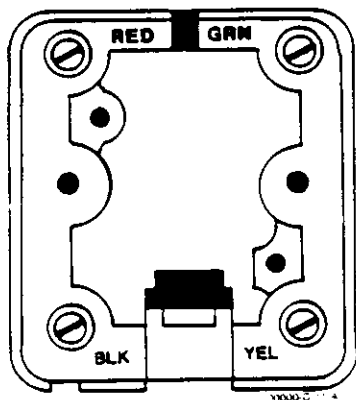
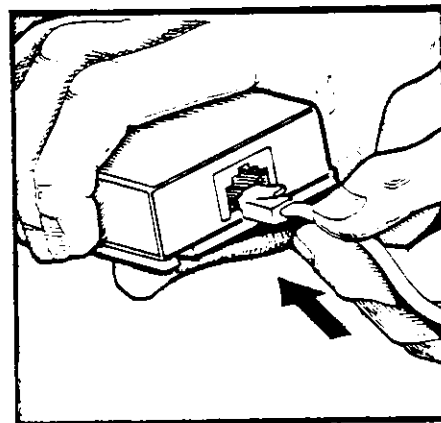

Figure 5-6 MODULAR JACK CONNECTOR, EK-824/1232/1648
Figure 5-7 CORD CONNECTION, EK-824/1232/1648
3.15 The cable is terminated at the station location in a 625A or 625F (4-wire) modular jack or equivalent. Modular jack assemblies should have screw-type terminals rather than the push-in type (Figure 5-6). Connect the RED, GRN, BLK and YEL conductors to the terminals. Each color matches the existing conductor color on each terminal. The telephone instruments are plugged into the modular jacks (Figure 5-7).